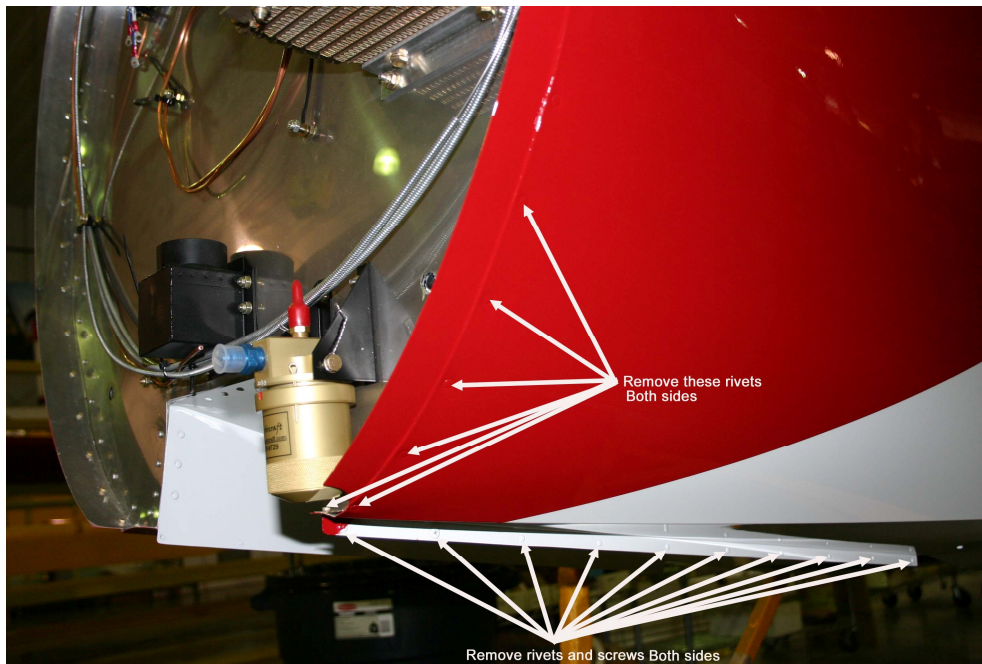

Figure 4
2. Remove rivets along both sides of exhaust channel and boot cowl. See Figure 4.
3. Remove rivets along the front sides of boot cowl. See Figure 4.